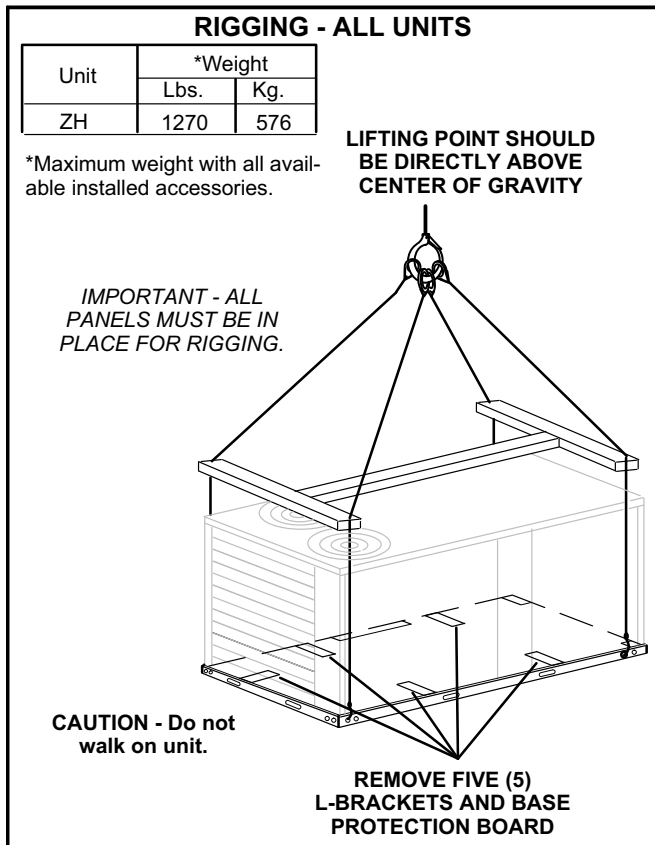

FIGURE 2
Rig unit for lifting by attaching four cables to holes in unit base rail. See figure 2.
Partially lift unit and remove five (5) L-brackets which secure the protective base board. See figure 2.